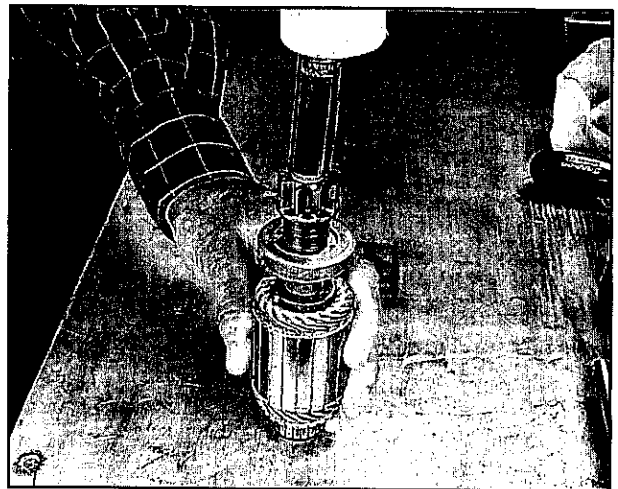

Fig. 34
7. Use a 14 mm Carburetor Socket #19458 to drive retainer from C-ring, **Fig. 34**. Remove and discard C-ring and retainer.